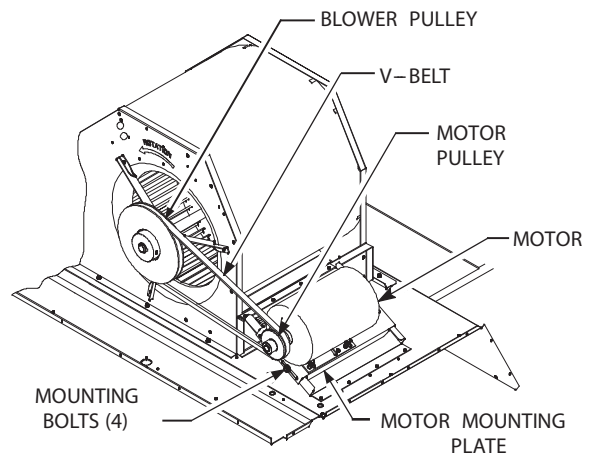

Fig. 11 — Typical Belt Drive Motor Mounting
The belt-drive supply fan system consists of a forward-curved centrifugal blower wheel on a solid shaft with two concentric type bearings, one on each side of the blower housing. A fixed-pitch driven pulley is attached to the fan shaft and an adjustable-pitch driver pulley is on the motor. The pulleys are connected using a V-belt. (See Fig. 11.)
Use the following steps to replace the V-belt. See Fig. 11.
2. Loosen belt by loosening fan motor mounting nuts. (See Fig. 11.)